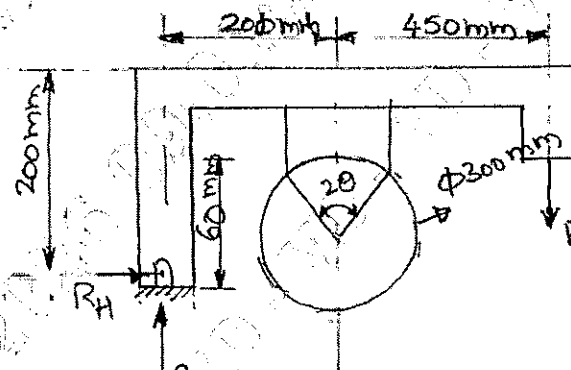

Fig.Q9(b)
- b. A single block brake which has a torque capacity of 15 N-m is as shown in Fig.Q9(b). Take  $\mu = 0.3$ , Max. pressure in the brake lining is 1 MPa, width of block is equal to length, determine